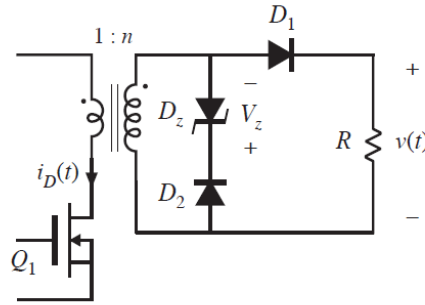

Figure 2 Transistor current sense circuit.
- Document your current sense circuit design calculations (Fig. 2) to select values for the resistance R and secondary turns n.
- Document your measurements of the MOSFET drain current using your current sense circuit: include your oscilloscope waveform of the voltage $v(t)$ in Fig. 2 at the full power point defined earlier. Specify the scale factor from measured voltage $v(t)$ to the actual drain current, and use this scale factor to compute the actual peak drain current. Compare this maximum current to the predicted sum of peak inductor currents at this operating point. Also find the average drain current, according to the sensed waveform $v(t)$, and compare to the sum of the converter dc input and output currents.